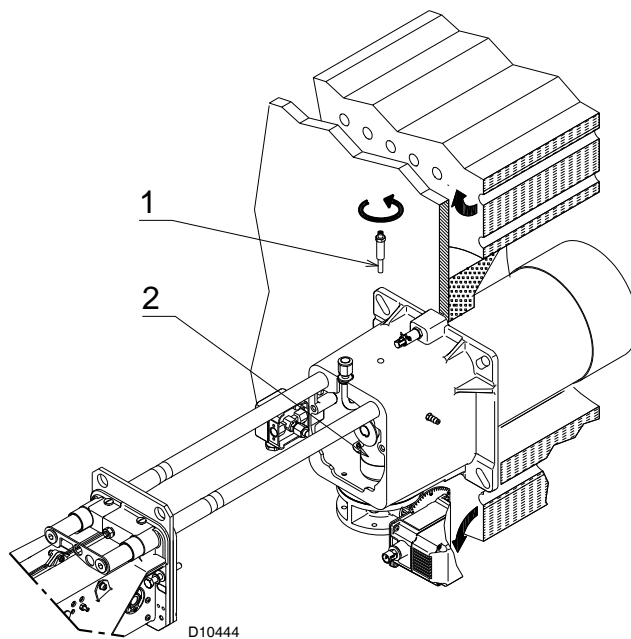

Fig. 13
- remove the screw 1)(Fig. 13) and extract the inner part 2) of the head;
At this point of the installation, the combustion head is fixed to the boiler as shown in Fig. 13.